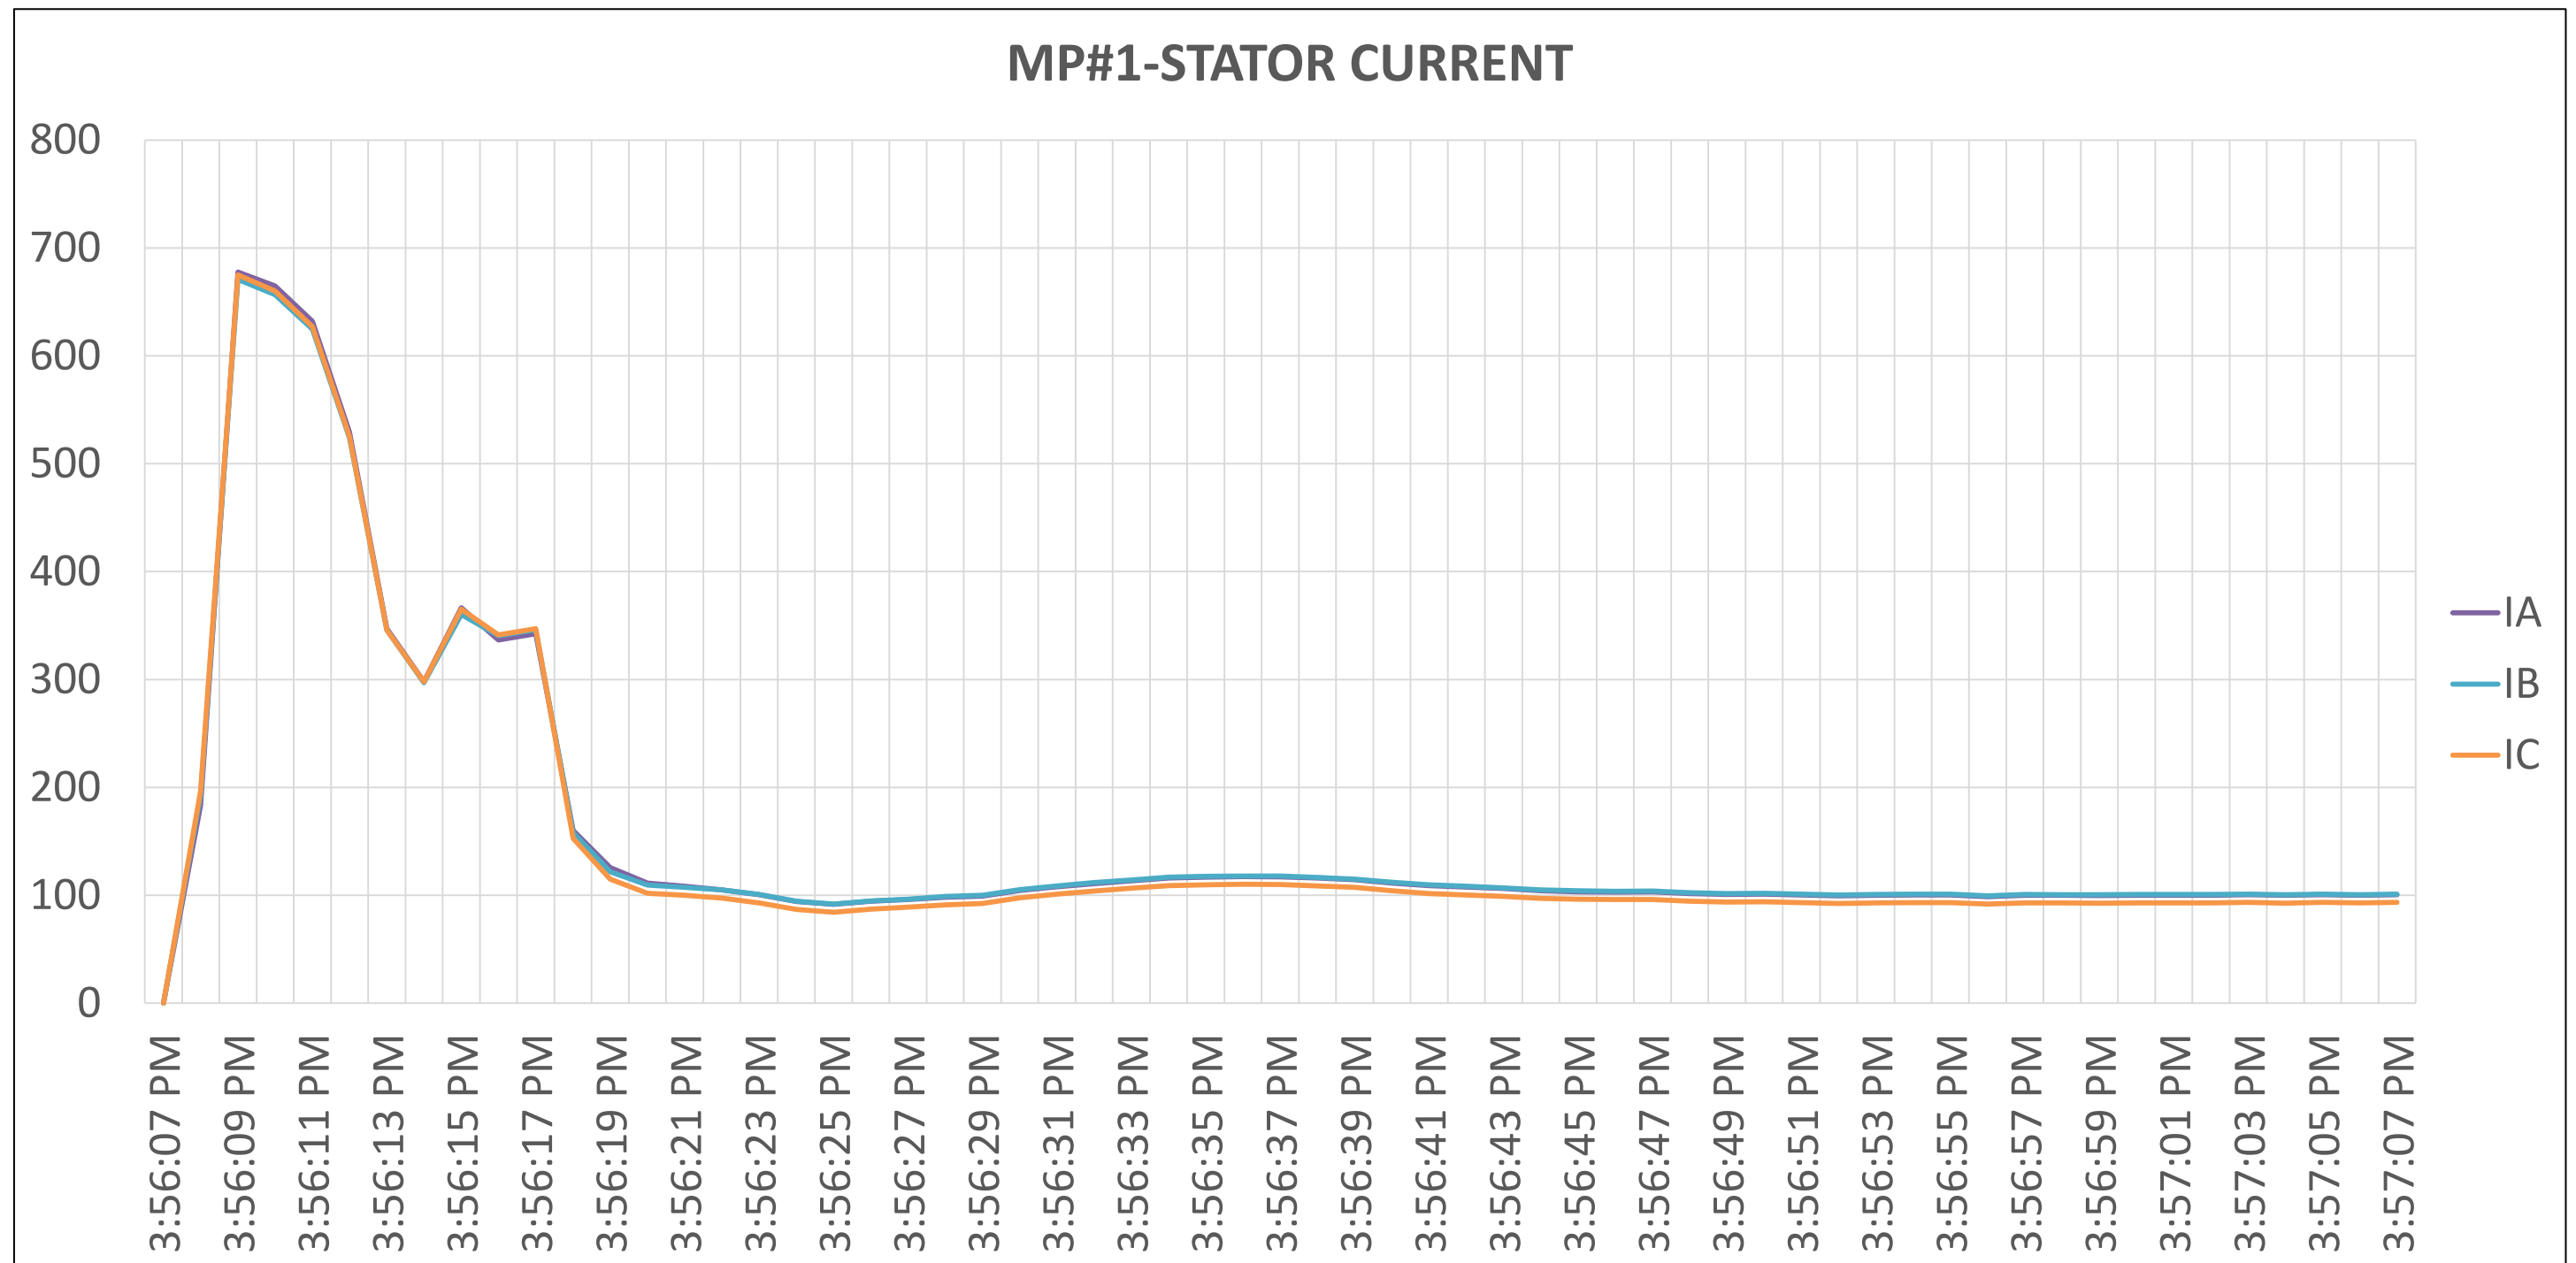
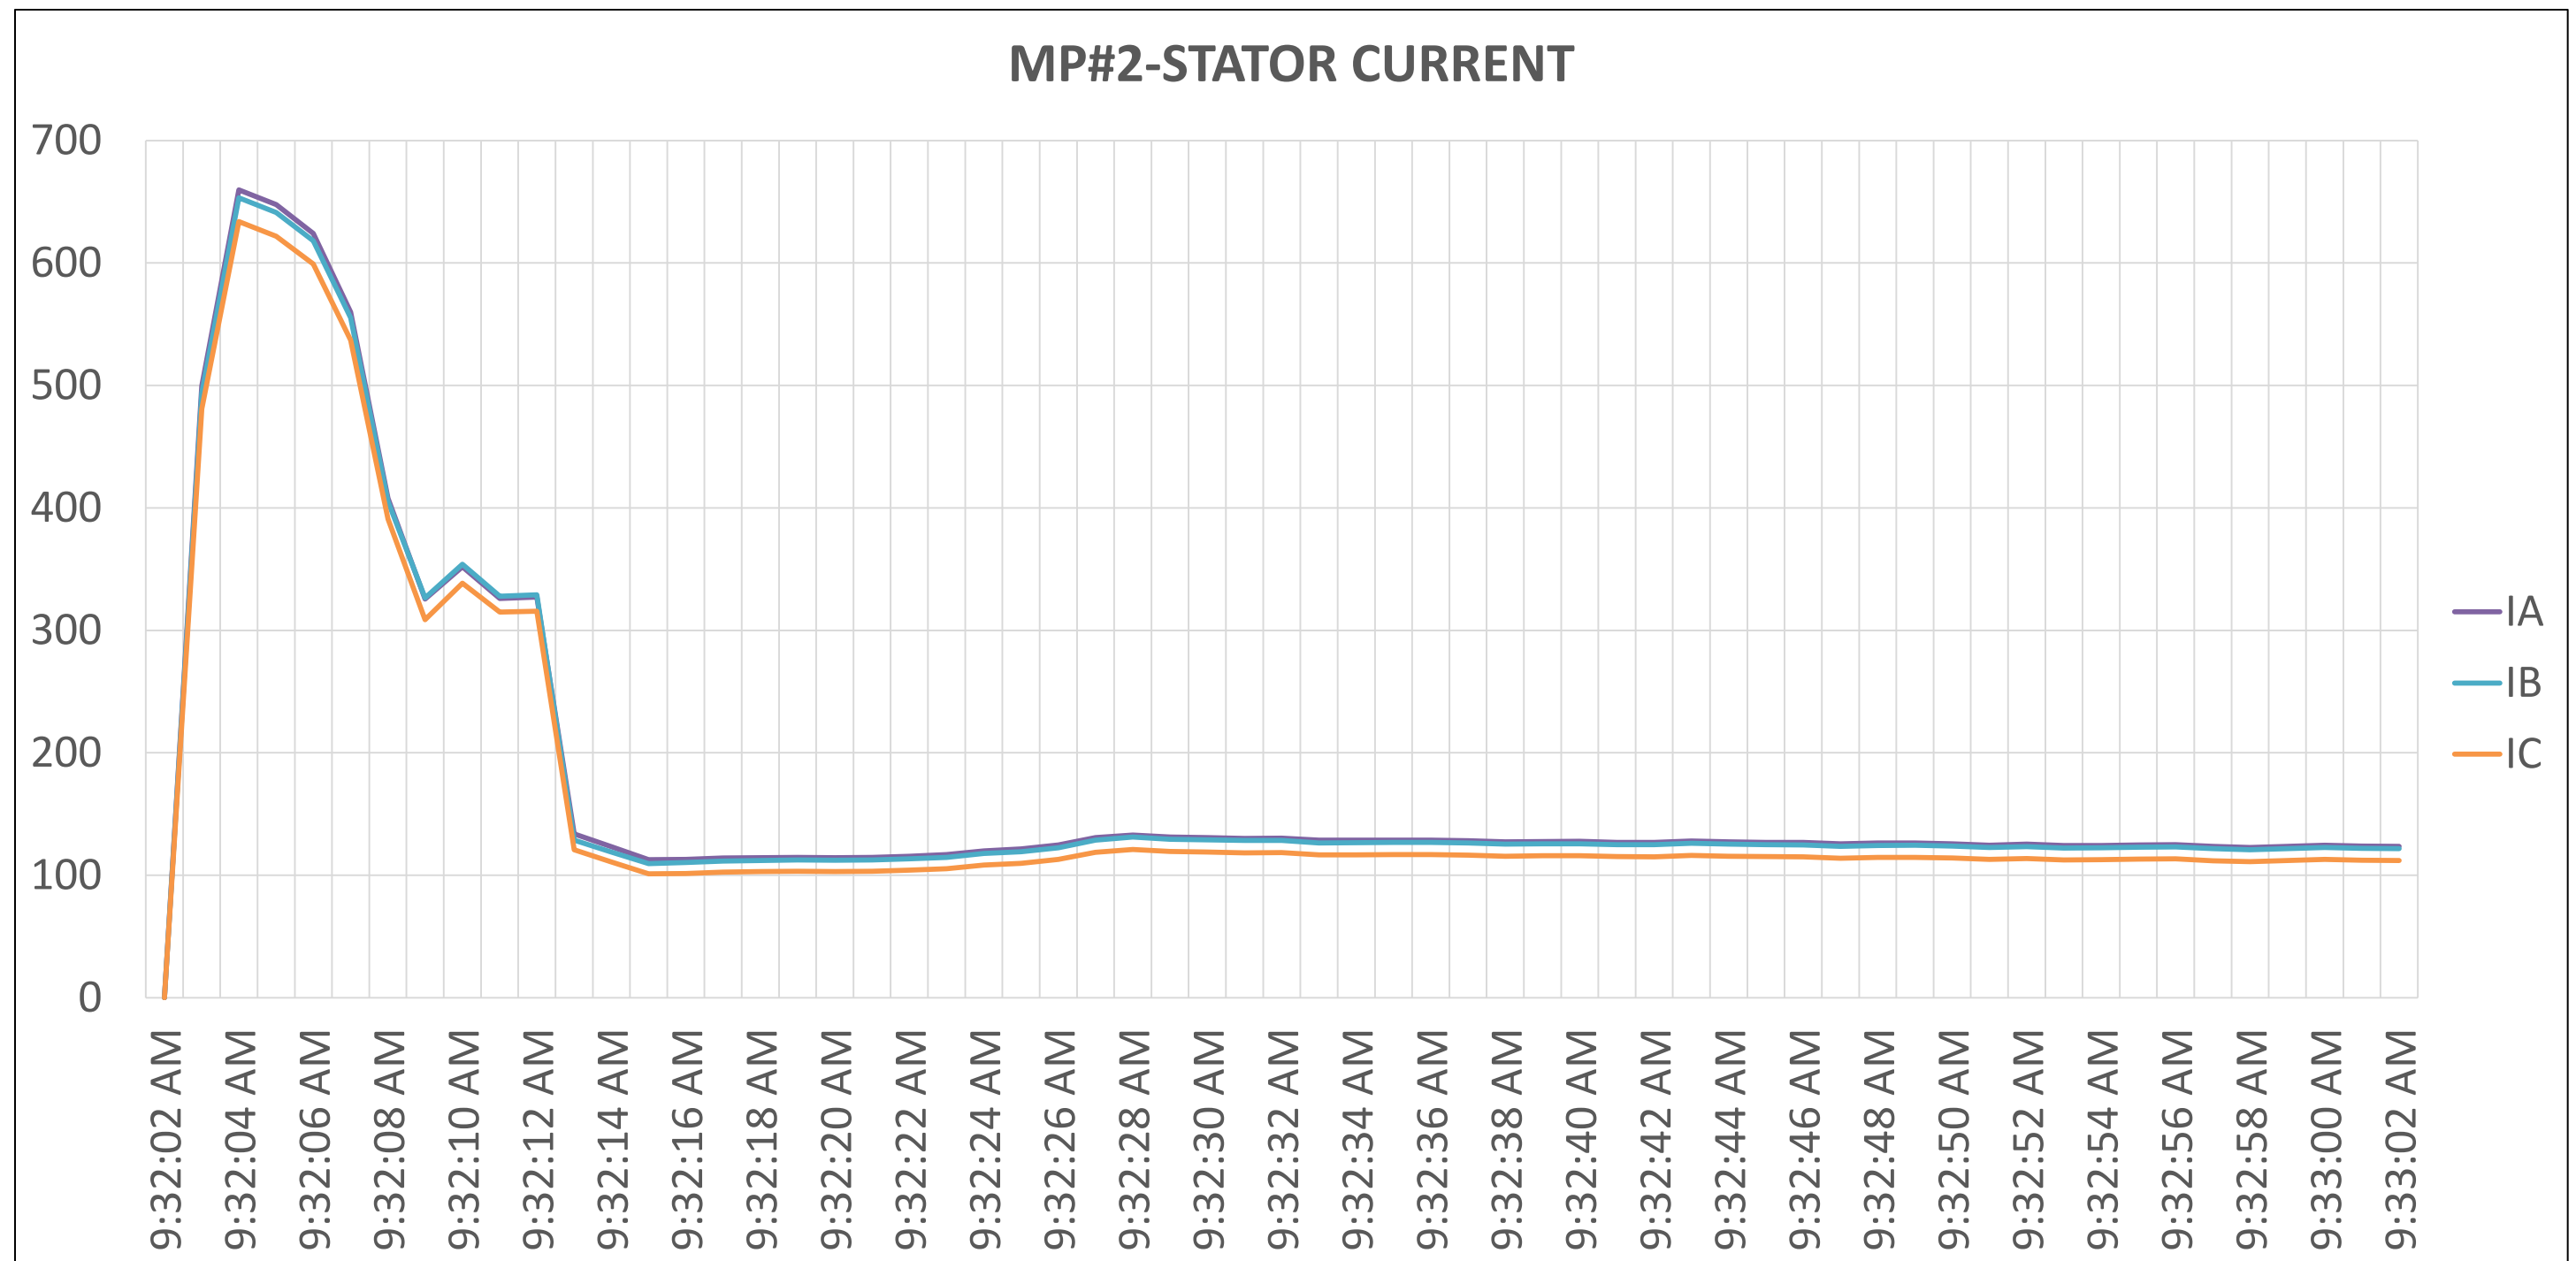
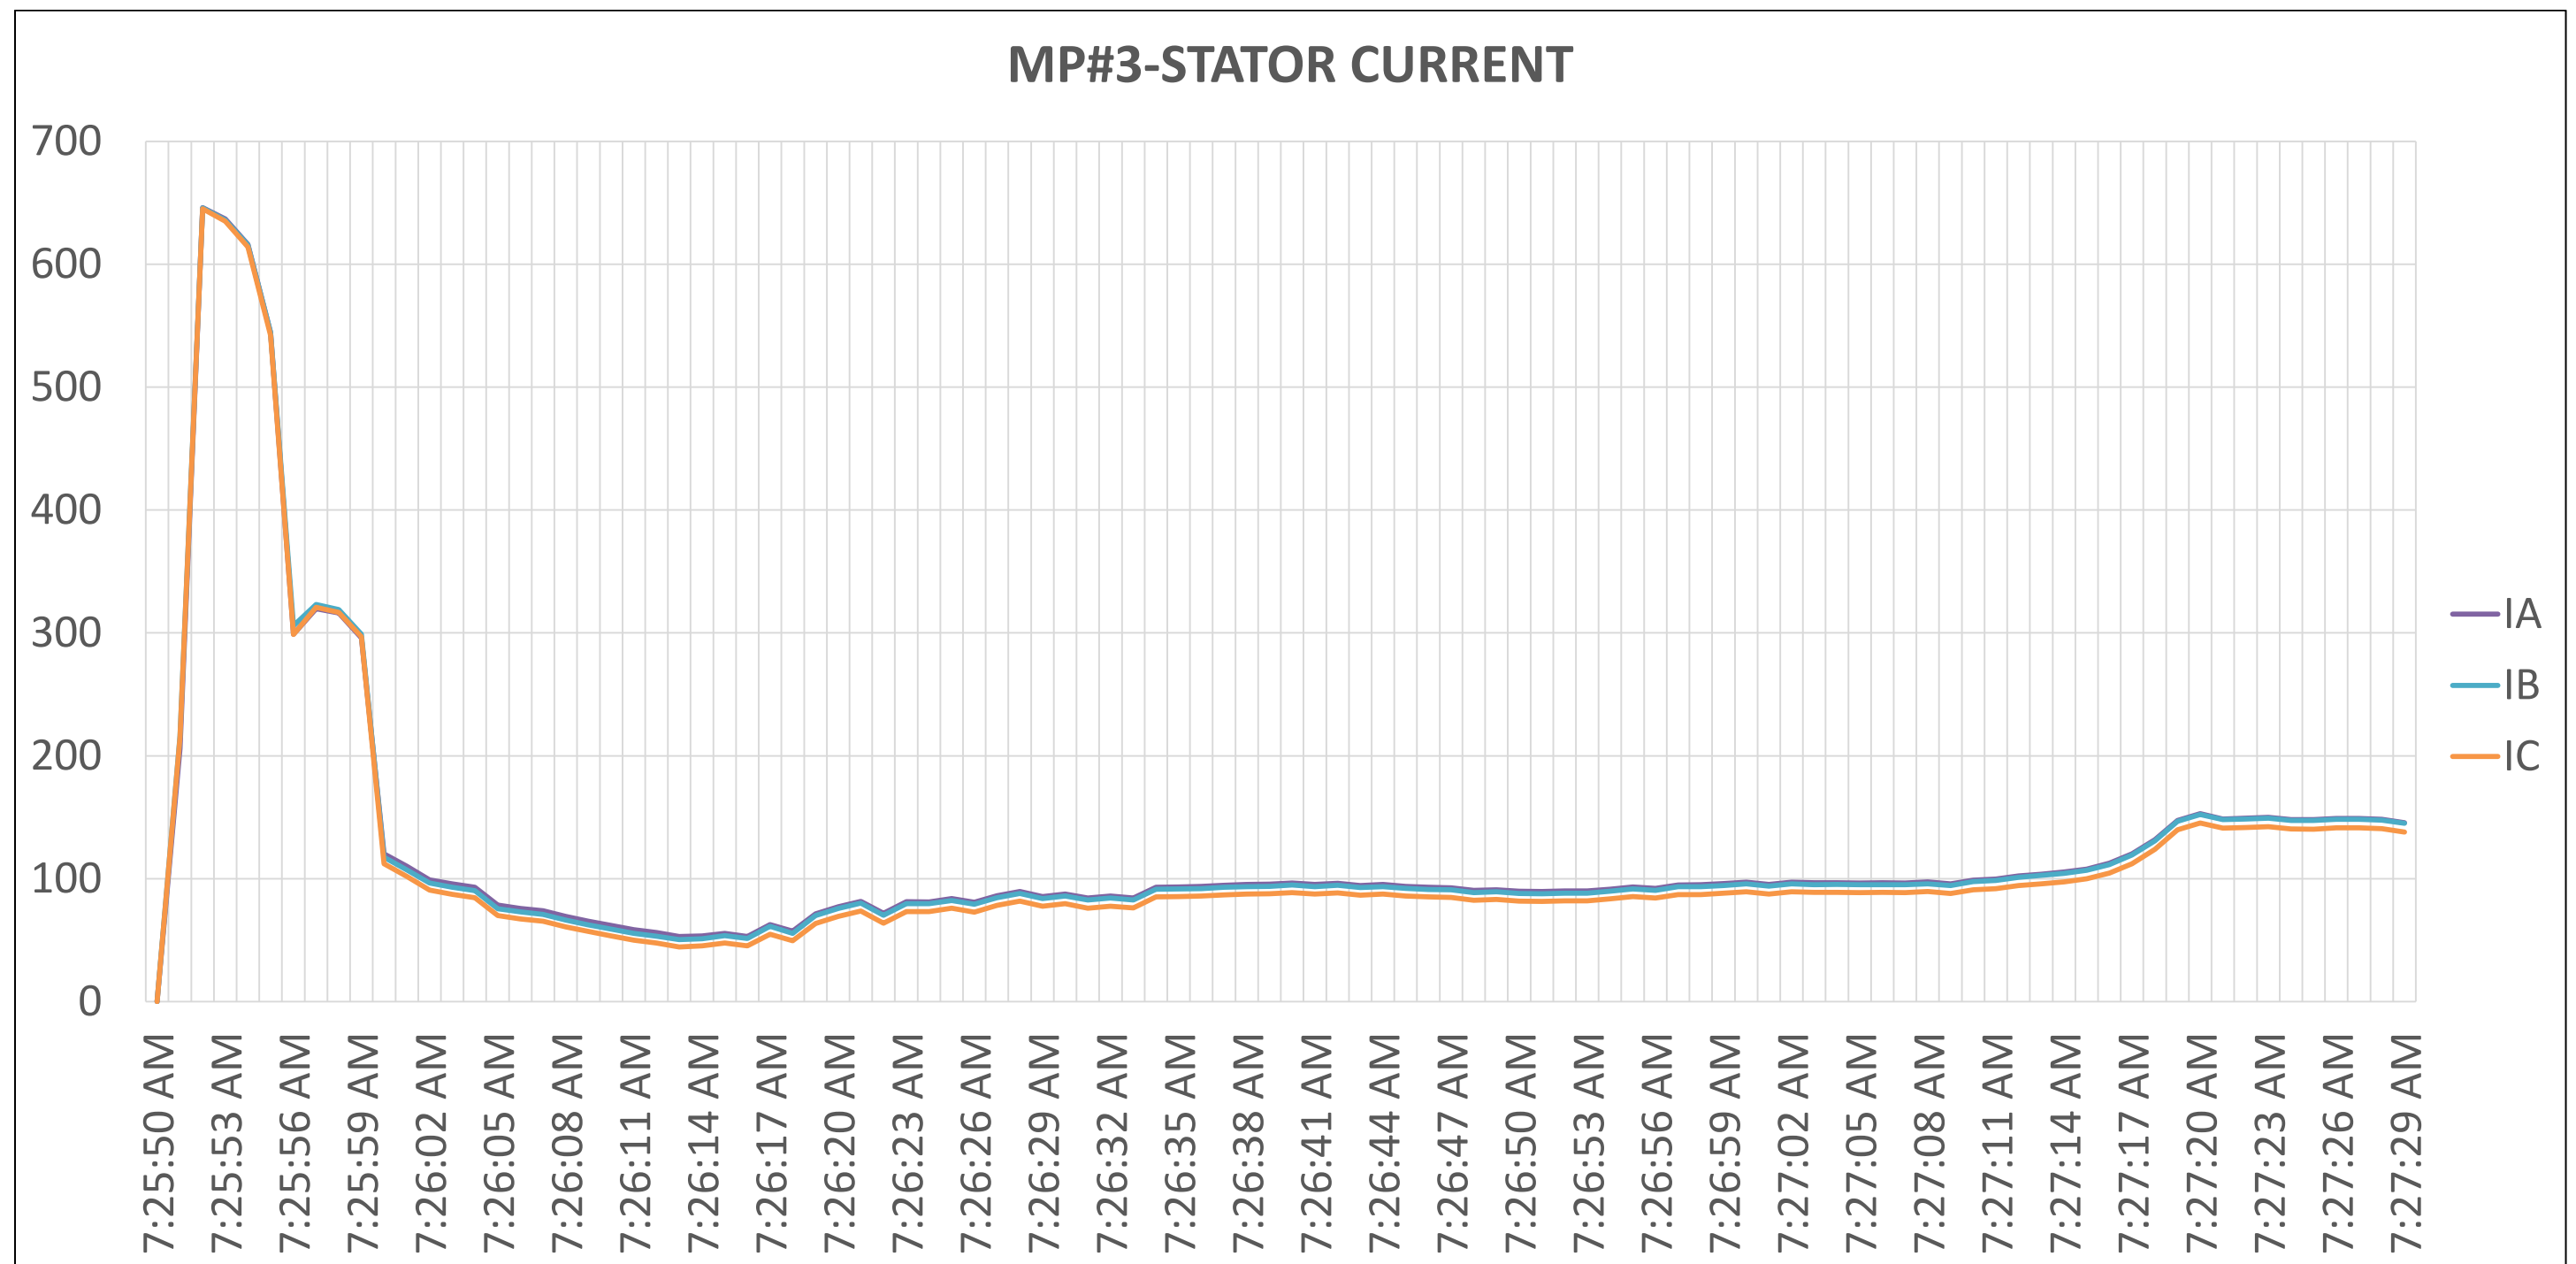

Figure 3-Main Dewatering Pump # 1 Current
Figure 4-Main Dewatering Pump # 2 Current
Figure 5-Main Dewatering Pump # 3 Current
- Undercurrent protection has been incorporated to detect loss of prime mover, pumping cavitation and broken shaft or coupling failure. As determined from Figure 3, Figure 4 and Figure 5, continues operating currents for each pump were record in excess of 100Amps on each phase. With a rated FLA of 208Amps, the undercurrent trip has been set to .33xFLA or approximately 70Amps to ensure sufficient coupling to external loads are well below normal operating conditions. This setting was also determined by reviewing main dewatering pump #3 starting characteristic, where approximately 33 seconds elapsed before the load current stabilized above this trip value.